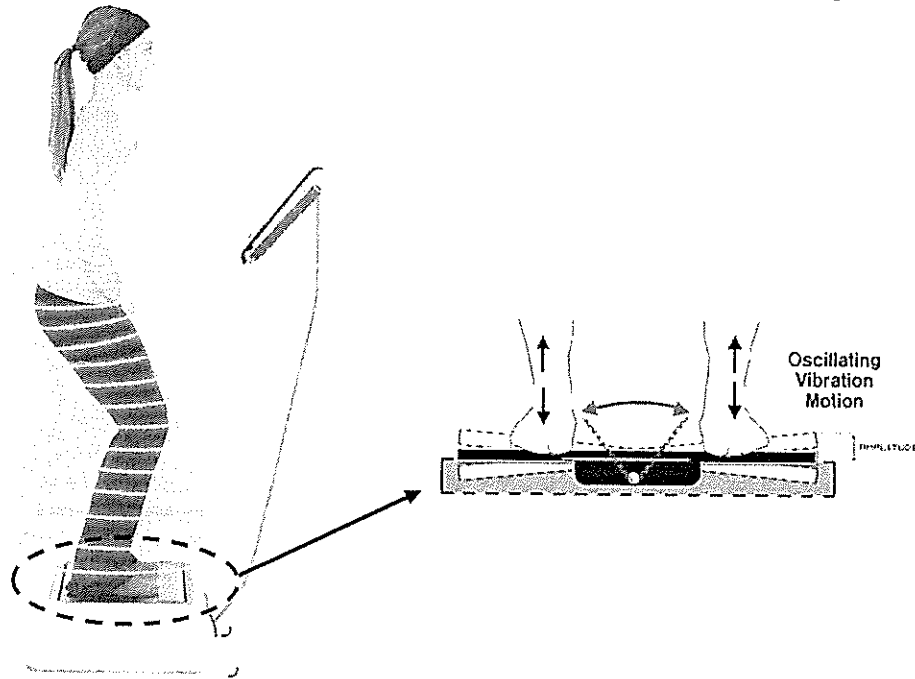

Figure Q2(a)
- a) **Figure Q2(a)** shows the postural positions of an individual using an Oscillating Vibrating Machine (OVM). In the light of your ergonomic knowledge on Whole-Body Vibration (WBV), evaluate **SIX** implications if a child is subjected to the OVM.